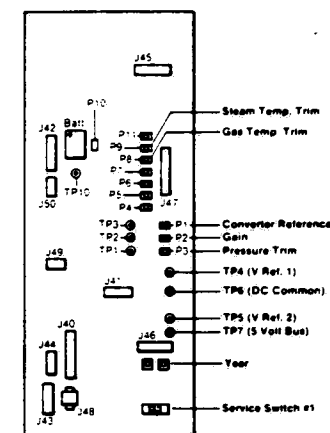

Figure 7-23. PRINTCON PC BOARD TEST POINT AND POTENTIOMETER LOCATIONS.
4. Locate test points TP4, TP5, and TP6 on the main Printcon PC Board (See Figure 7-23).